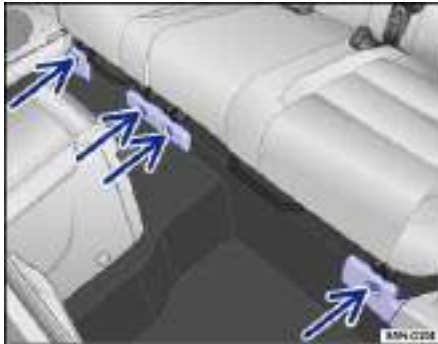

Fig. 98 Front attachment of the rear seat.
8. Unclip the small covers (not pictured) on the hexagonal nuts in the rear footwell ⇒ fig. 98 (arrows).
12. Remove the hexagonal nuts in the rear of the footwell again, set the 3 plastic covers ⇒ fig. 98 on the studs and screw on with the hexagonal nuts.